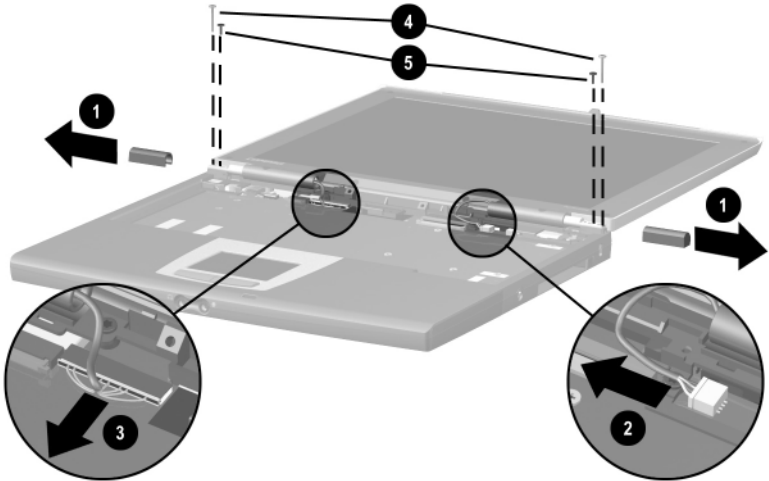

Figure 5-10. Removing the Display
2. Slide the left and right hinge covers away from the computer ❶ (Figure 5-10).